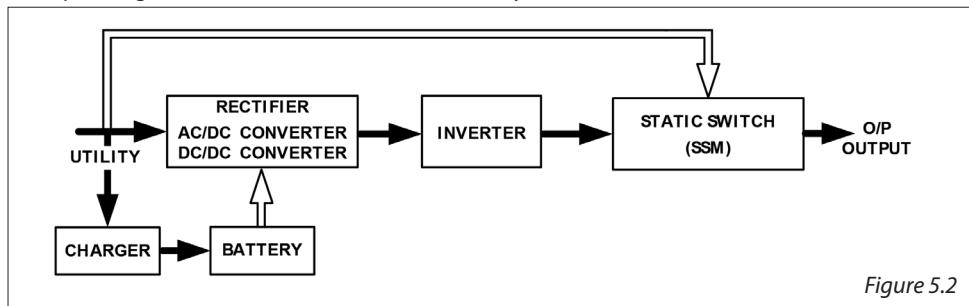

Figure 5.2
2. When the utility returns to normal the UPS will turn on the AC/DC converter, turn off the DC/DC converter, and switch the charger to charging mode. This is the same operating mode as in Figure 5.2.
4. The UPS will restart automatically when the utility is available, with the same status as in Figure 5.2.